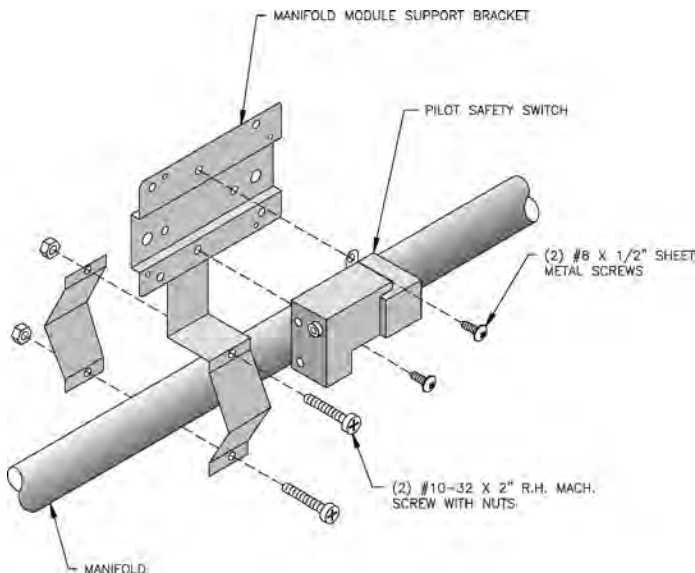

FIG. 35
3. INSTALLATION OF PILOT SAFETY SWITCH AND PILOT PIPING – Using two #10-32 x 2" MS and nuts, install the L62GB-3C pilot safety switch bracket on the manifold just to the right of the main burner with pilot. Install L62GB-3C pilot safety switch on bracket using two #10-32 x 1/2" MS. "IN" on pilot safety switch should be pointed in the direction of the Gas Train to which the pilot safety switch is to be connected, see Fig. 35.